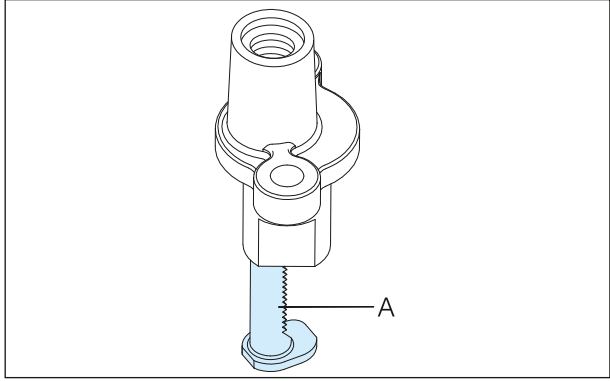
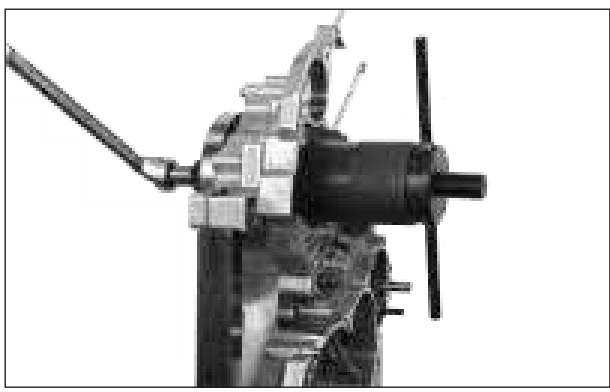

Fig. 3.122
Fig. 3.123
- Check the adjuster assembly tensioner arm (A), if the arm is found to be in the extreme out position, then replace the cam chain with a new one. (Fig. 3.122)
**Caution:** While reassembling the adjuster assembly tensioner, push the arm (A) fully inside by pressing the lock provided on it.
- Take crankshaft assembly, insert it in the bearing mounting area in Crankcase L. Use the special tool to pull the crankshaft till it's seating in the crankcase L. This special tool need to be threaded on to the crankshaft L from the other side of crankcase L and rotated the handle for pulling the crankshaft completely in. (Fig. 3.123)